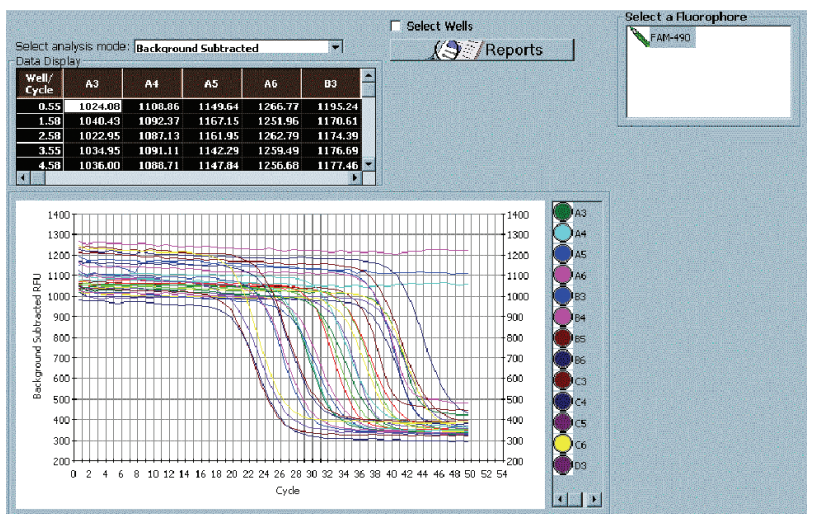

Figure 23. The "PCR Quantification" tab with data displayed and all data selected.
6. Select “Background Subtracted” from the “Select analysis mode:” drop-down menu (Figure 23).